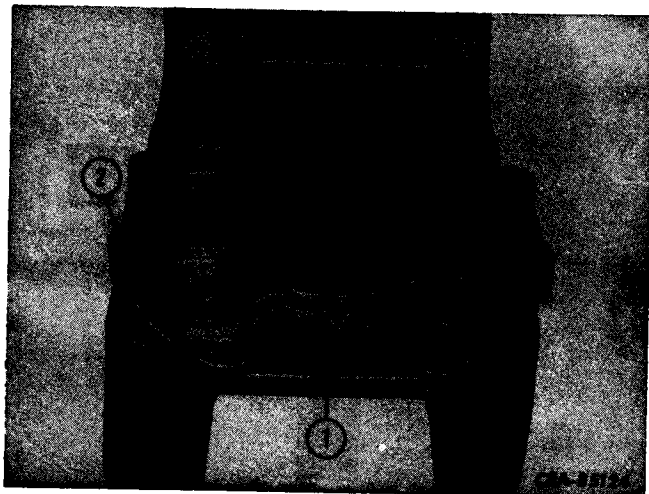

Figure 5-30
Coat the O.D. of a new oil seal (1, Fig. 5-30) with sealant and press seal (1) into outside face of cover (2). Spring loaded lip of seal must face in toward center of housing. Press until seal is flush with face of cover.